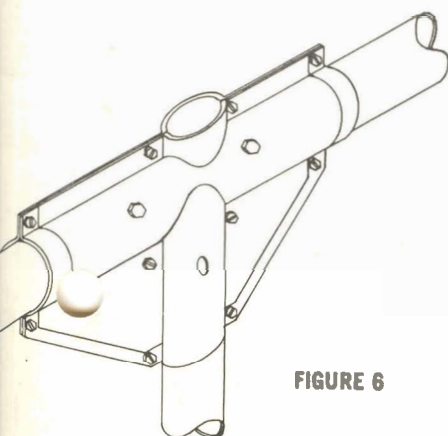

FIGURE 6
- ☐ Boom. Couple the two boom sections together with the mast bracket, Figure 6. Secure with two 5/16" x 3" bolts through the bracket.